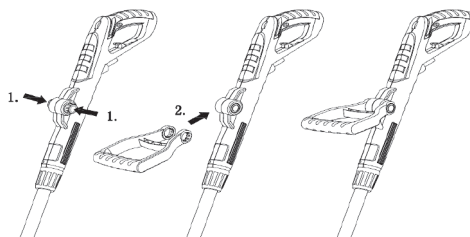

Fig. 2
1. Mounting the auxiliary handle and adjusting the angle. Refer to Fig. 2
- Press the adjusting knob (6). (step 1)
- Insert the auxiliary handle (9) into the main handle (8), then release the adjusting knob (6). (step 2)
- Press the adjusting knob(6) to adjust the angle of auxiliary handle to you preferred position.